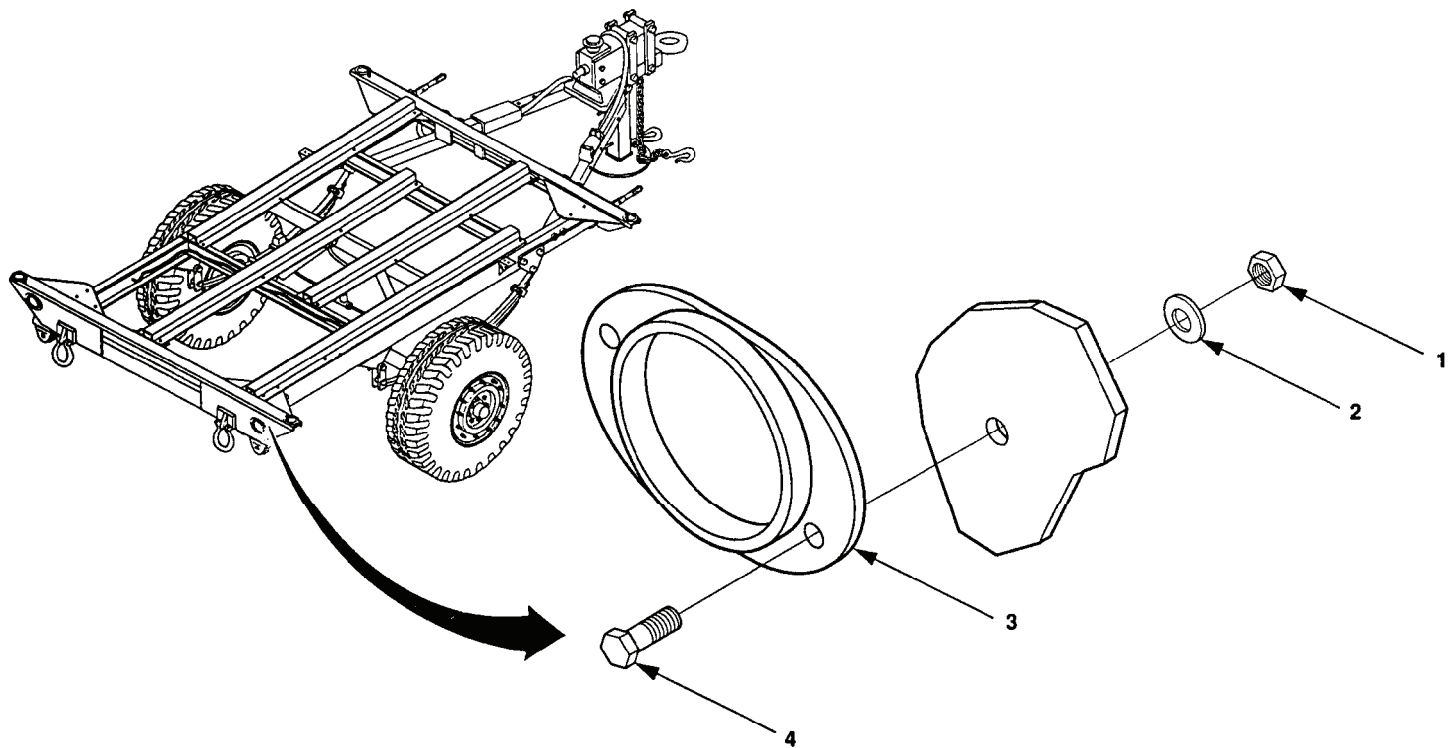

Figure 4-25. Reflector Replacement, 1 Ton Trailer.
Remove two self-locking nuts (1, figure 4-25), flat washers (2), and cap screws (4), and remove reflector (3). Discard self-locking nuts (1).